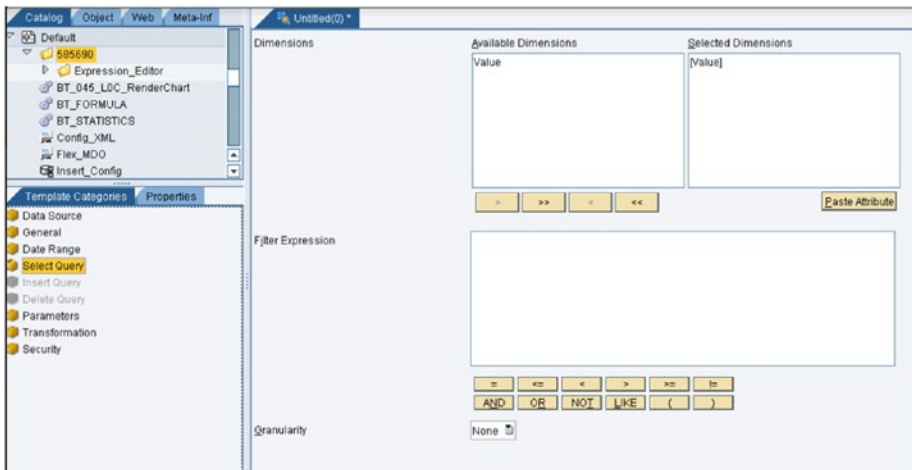

Figure 7-97. Defining dimensions in KPI
9. Open the Dimensions page and select a dimension from the available dimensions. Choose Add. See Figure 7-97.